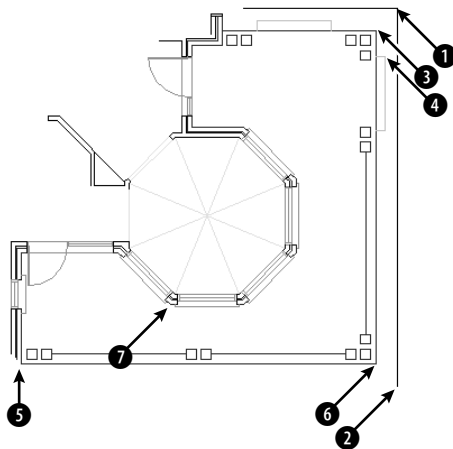

Figure 14-12: A house plan with an octagonal ceiling.
2. Save the file as `ab14-03.dwg` in your AutoCAD Bible folder. This is the same drawing used in the previous two exercises, as shown in Figure 14-12. OSNAP should be on with running object snaps for endpoint and intersection. If the Dimension toolbar isn't visible, right-click any toolbar and check Dimension.
`Specify first extension line origin or <select object>:` Pick the endpoint at ❶ in Figure 14-12.
6. The command repeats the Specify a second extension line origin or [Undo/Select] <Select>: prompt. Pick the endpoint at ② in Figure 14-12 to place the dimension. Press Enter twice to end the command.
Specify first extension line origin or <select object>: Choose the endpoint at ⑤ in Figure 14-12.
8.  Choose Baseline Dimension from the Dimension toolbar. At the Specify a second extension line origin or [Undo/Select] <Select>: prompt, pick the endpoint or intersection at ⑥ in Figure 14-12. Press Enter twice to end the command.